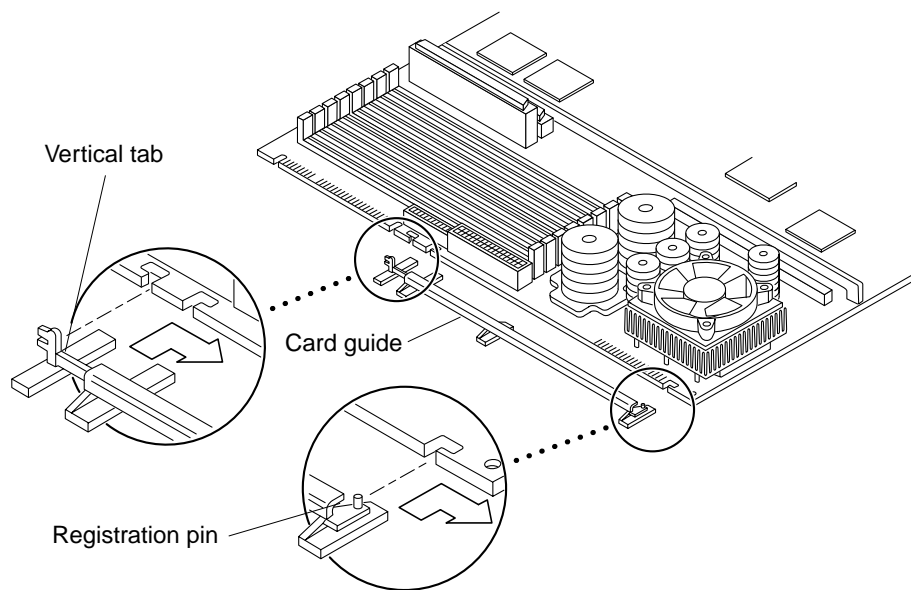
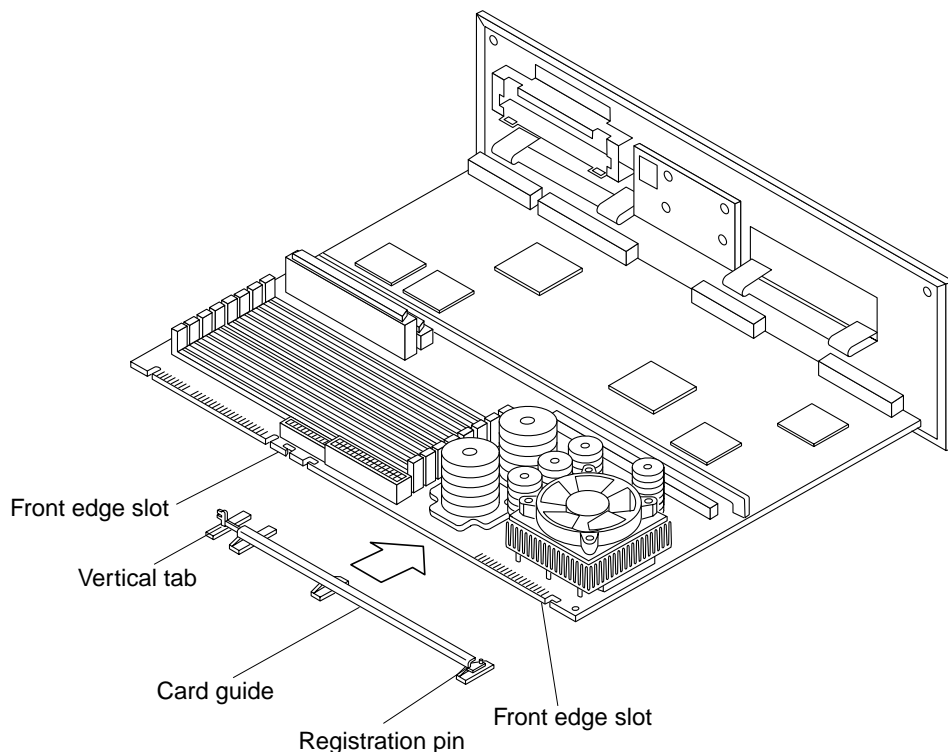

FIGURE 10-5 Card Guide Exploded view
FIGURE 10-6 Installing the Card Guide
2. Prepare to install the system board as follows (FIGURE 10-5 and FIGURE 10-6):